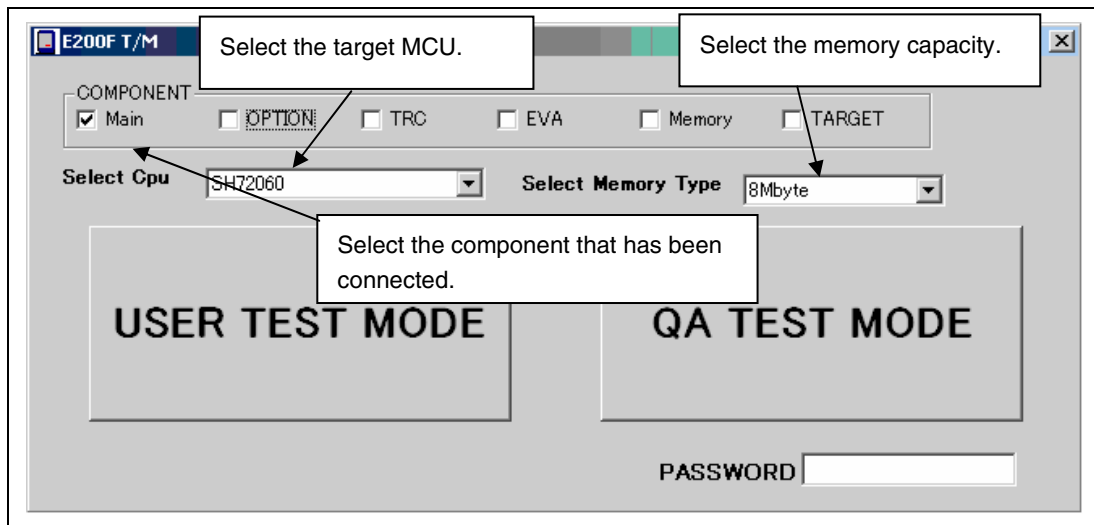

Figure 3.4 Initial Screen of the E200F System Operation Test
4. The diagnostic program of the emulator is started and the initial screen (figure 3.4) is displayed.